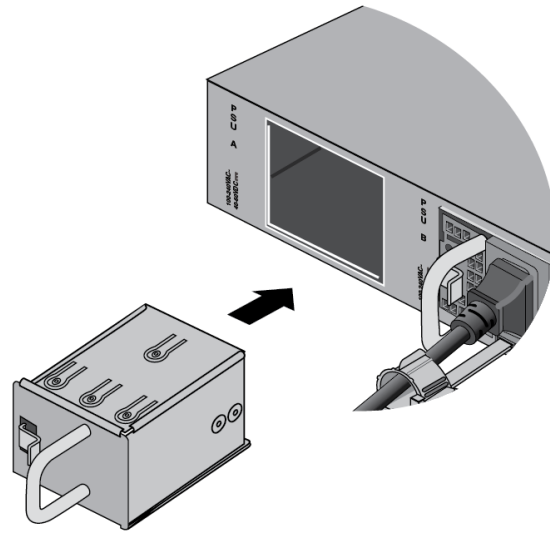

Figure 148. Installing the Blank Power Supply Cover
7. Orient the blank power supply cover as shown in Figure 148 on page 251 and slide it into the slot until it clicks into place.
9. Orient the blank power supply cover as shown in Figure 148 on page 251 and slide it into the slot until it clicks into place.